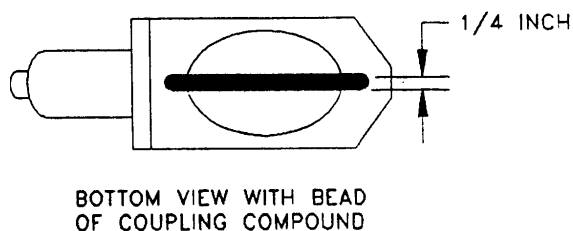

Figure 2.9 Transducer Couplant Application
2. Place a single bead of couplant, approximately 0.25 inch [6 mm] thick, on the flat face of the transducer. See Figure 2.9. Use Dow 732 for permanent and Dow 44 for temporary (less than six months) installations.